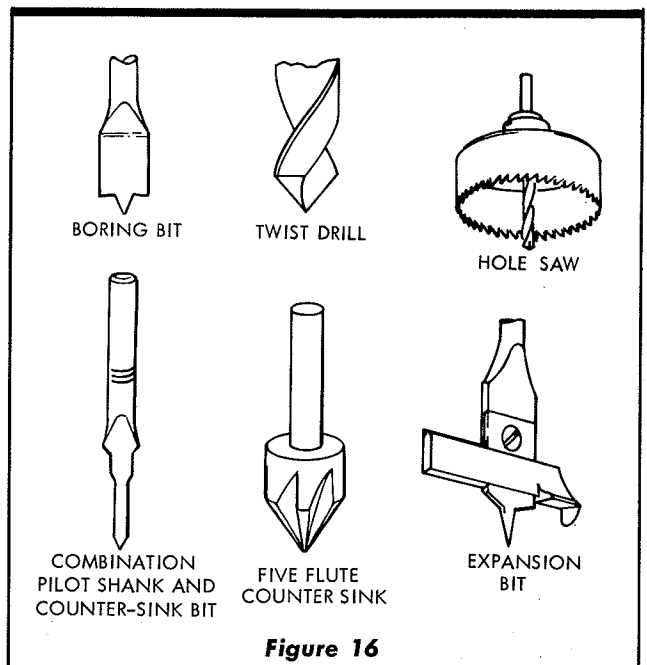

Figure 16
2. Types of Drill Bits. (See figure 16.)